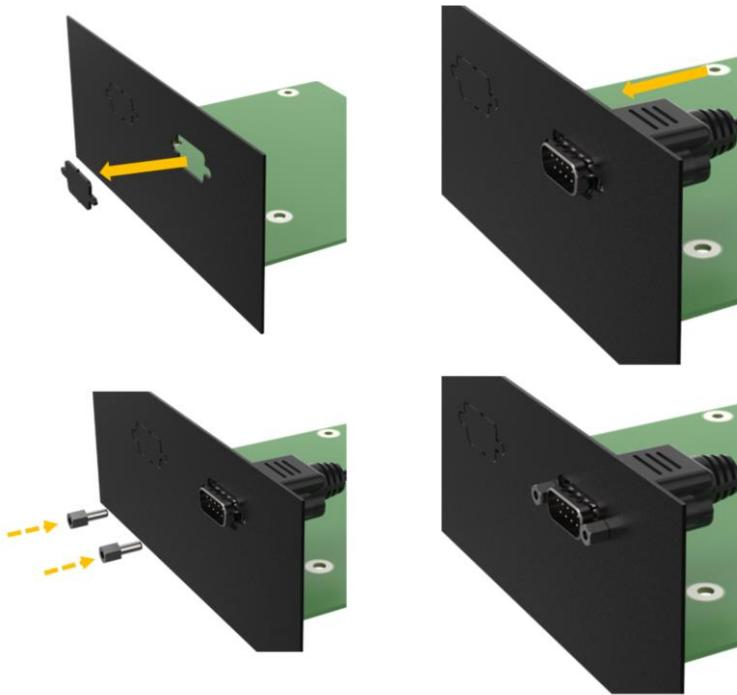

Figure 3-5: RS-232 DB9 Cable Installation
Step 3: Knock out the reserved holes on the chassis and Secure the DB9 end of the serial cable to the panel. (Figure 3-5)